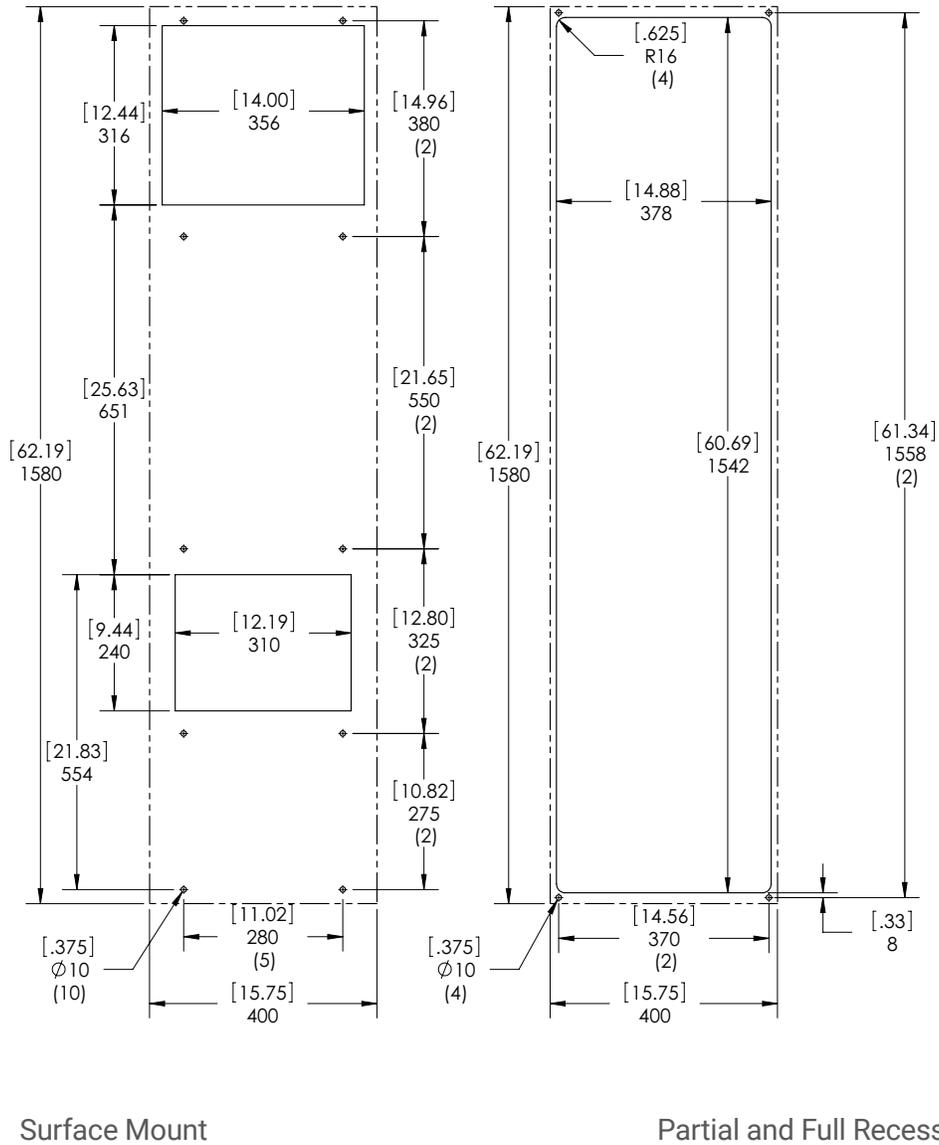

Figure 10
2. Using the cutout template provided with the unit, prepare the enclosure. See Figure 10 and Figure 11. The front of the unit requires a half meter clearance for proper airflow. Five centimeters is required on each side of the unit. To avoid condensate overflow, unit must be mounted within 3° of level.